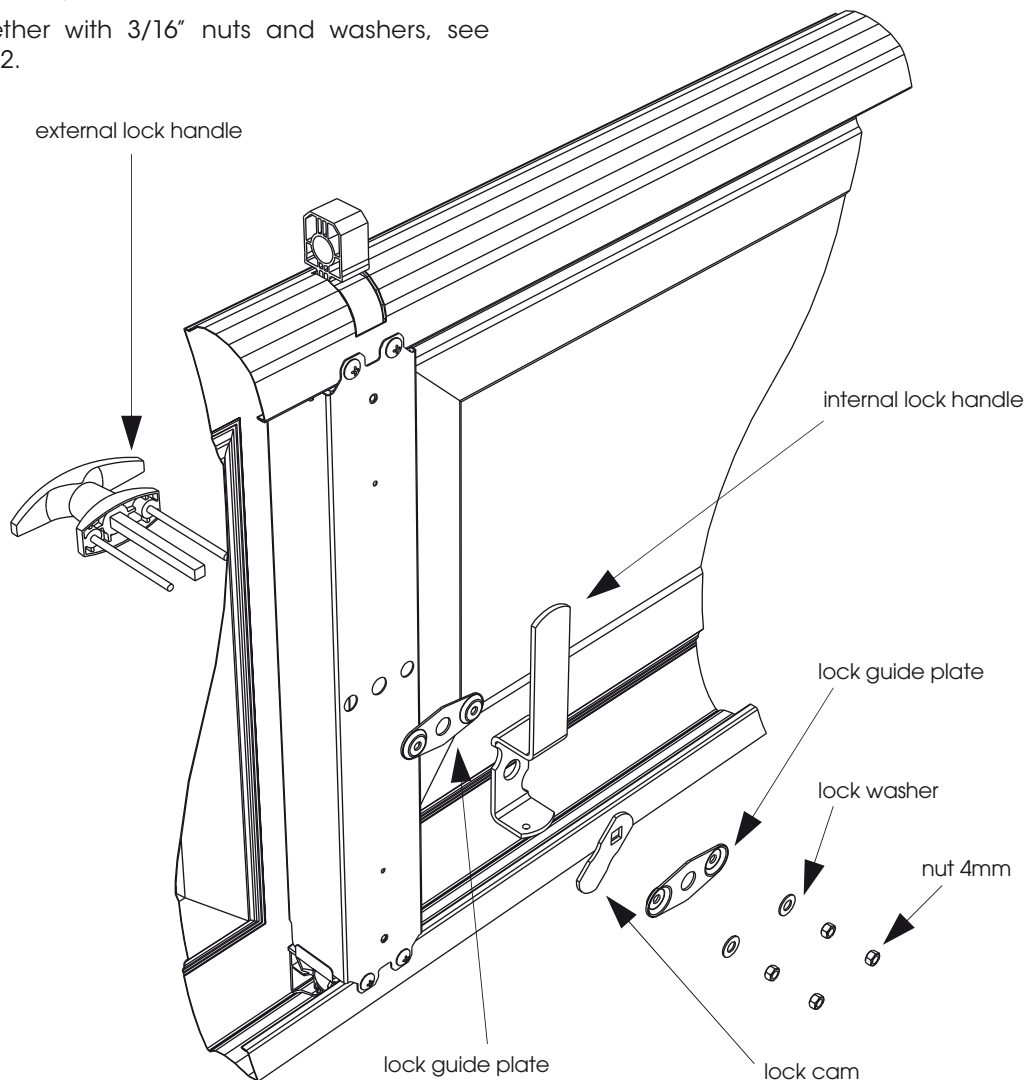

Fig: 5.6.2
- e) Lock together with 3/16" nuts and washers, see Figure 5.6.2.